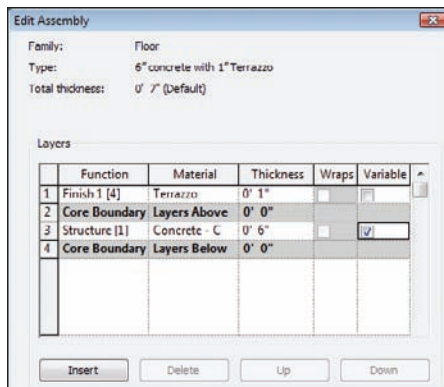

FIGURE 6.23 The completed layers for the floor system
7. In the Thickness column, enter 1". Make sure you are typing 1 inch, not 1 foot (see Figure 6.23).
8. To the far right of the rows in the Layers field are Variable checkboxes. Click Variable for the Structure row, as shown in Figure 6.23. This will enable you to slope the slab if need be. Only the layer that is set to be variable will actually slope. Any layer that is on top of this variable layer will be pitched.